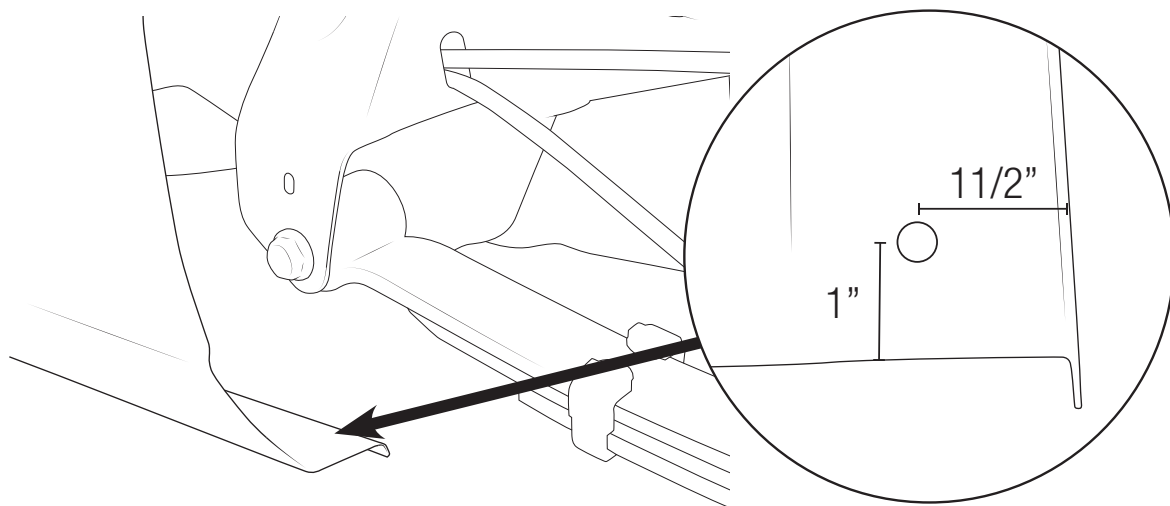

Figure 9: Driver's Side Shown
- D. Drill another $7/16$ " hole in the bottom lip of the bedside. This hole should be 1 " forward of your cut and $1\ 1/2$ " from the inboard edge out (fig. 9).